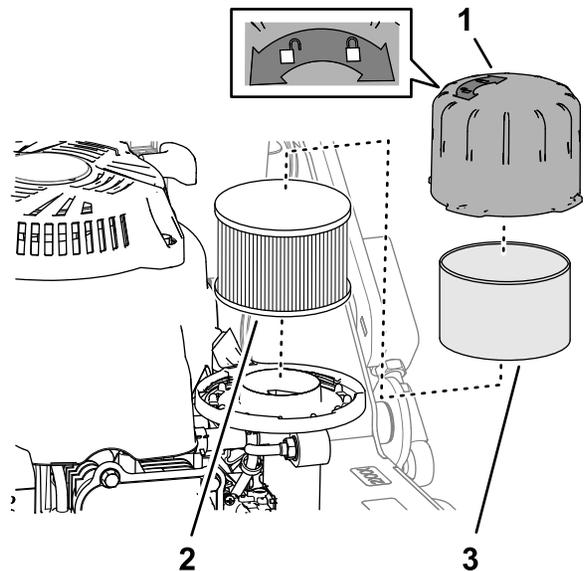

Figure 29
2. Remove the air-cleaner cover, and clean it thoroughly (Figure 29).
3. Remove the foam pre-cleaner and wash it with a mild detergent and water, then blot it dry (Figure 29).
4. Remove and inspect the air-filter element (Figure 29); if it is excessively dirty, replace it.